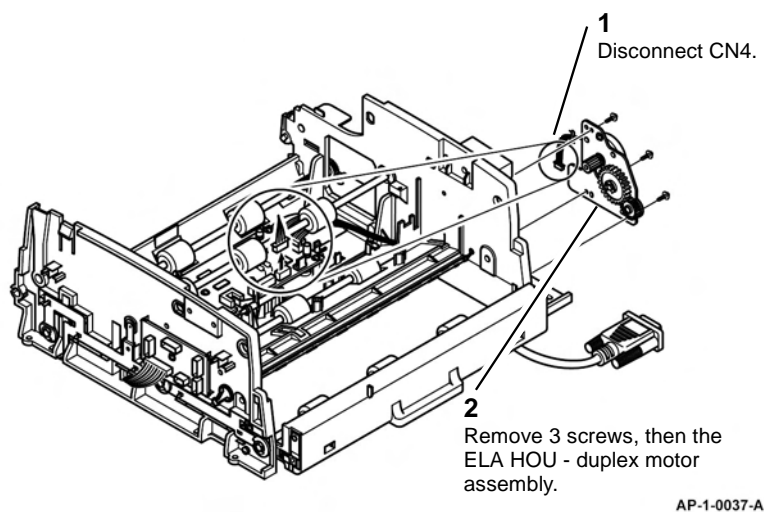

Figure 19 ELA HOU - duplex motor assembly removal
20. Remove the ELA HOU - duplex motor assembly, Figure 19.